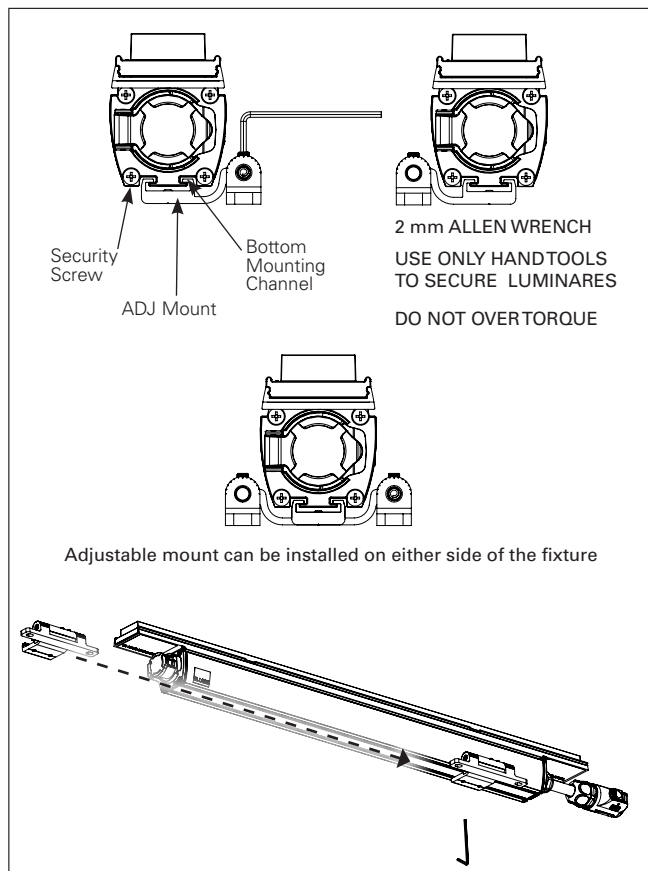

Figure 5
7. If using the ADJ mount, these should be slid onto the channel on the bottom of the fixture before fixture placement (see Figure 5). ADJ mounts must be secured onto the bottom of the fixture with a 2 mm Allen wrench when positioning is finalized.
9. If aiming angle is desired, fixtures attached to ADJ mount should be rotated to desired angle and secured by hand tightening the 2 set screws with a 2 mm Allen wrench. (see Figure 5). For consistency, all fixtures along the run should be aimed the same by utilizing the aiming marks on the ADJ mount. Additional ADJ mounts can be added for increased aiming security.